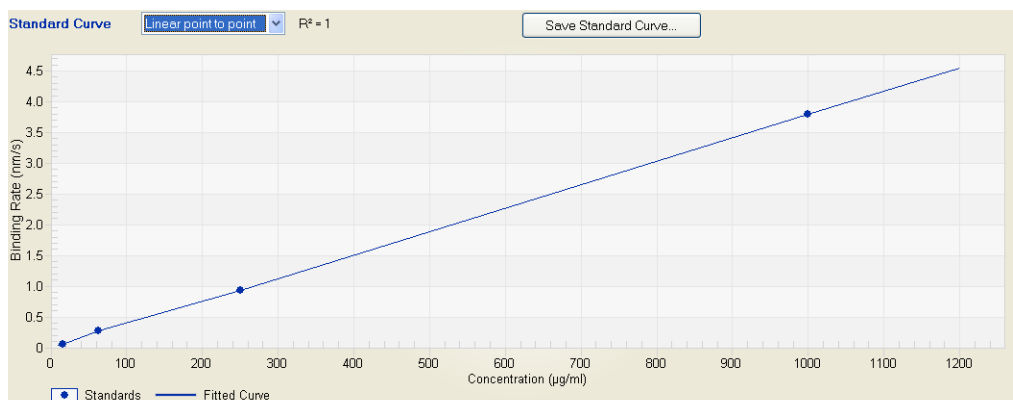

Figure 4-29: Save Standard Curve— Binding Rate Measured in nanometers per second (nm/s) as a Function of Sample Concentration
15. Click **Save Standard Curve** (Figure 4-29) to save the Standard Curve.